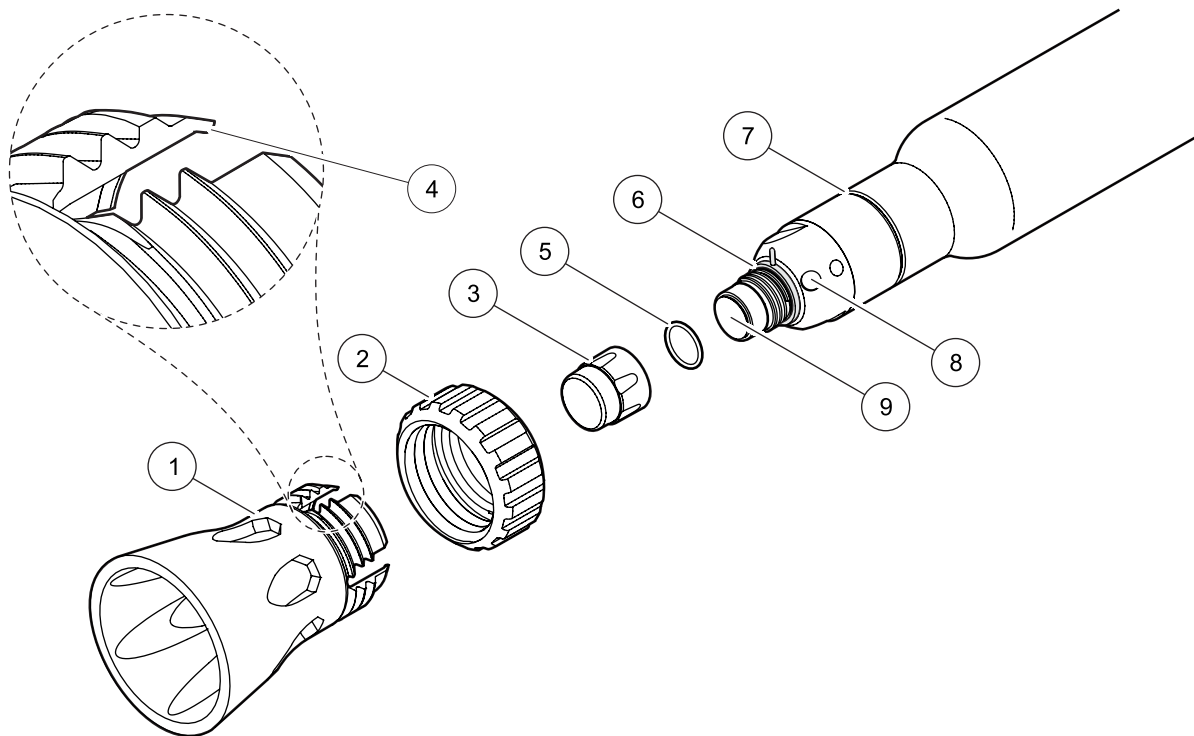

Figure 2 Shroud and Sensor Cap Removal
1. Hold the shroud (Figure 2, item 1) and unscrew the locking ring (Figure 2, item 2).
1. Place the locking ring (Figure 2, item 2) on the probe body with the threads toward the shroud (Figure 2, item 1).
2. Slide the shroud onto the probe until the locking ribs (Figure 2, item 4) are seated in the locking groove (Figure 2, item 7).
- After use, visually inspect the sensor cap. Use optical tissue or a cotton swab with soapy water to clean the sensor cap (Figure 2, item 3). Rinse with fresh water.
- If the cap is sealed properly using the top O-ring seal, no water should be present between the sensor cap and the clear plastic sensor lens (Figure 2, item 9) at the top of the probe. If water is present, remove the cap and thoroughly dry the inside of the cap and the sensor lens. The cap may require replacement (Cat. No. 58112-00).